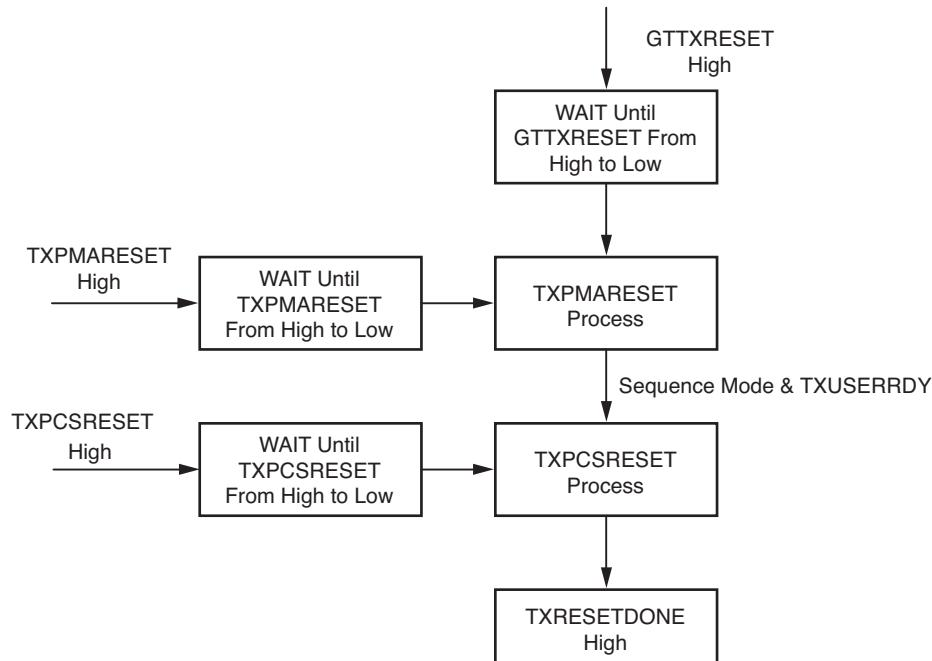

Figure 2-15: GTX/GTH Transceiver TX Reset State Machine Sequence
- Sequential mode: The reset state machine starts with an initialization or component reset input driven High and proceeds through all states after the requested reset states in the reset state machine, as shown in Figure 2-15 for the GTX/GTH transceiver TX or Figure 2-20 for the GTX/GTH transceiver RX until completion. The completion of sequential mode reset flow is signaled when (TX/RX)RESETDONE transitions from Low to High.
The GTX/GTH transceiver TX uses a reset state machine to control the reset process. The GTX/GTH transceiver TX is partitioned into two reset regions, TX PMA and TX PCS. The partition allows TX initialization and reset to be operated only in sequential mode, as shown in Figure 2-15.
The initializing TX must use GTTXRESET in sequential mode. Activating GTTXRESET input can automatically trigger a full asynchronous TX reset. The reset state machine executes the reset sequence, as shown in Figure 2-15, covering the whole TX PMA and TX PCS. During normal operation, when needed, sequential mode allows the user to reset TX from activating TXPMARESET and continue the reset state machine until TXRESETDONE transitions from Low to High.
The TX reset sequence shown in Figure 2-15 is not automatically started to follow global GSR. It must meet these conditions: